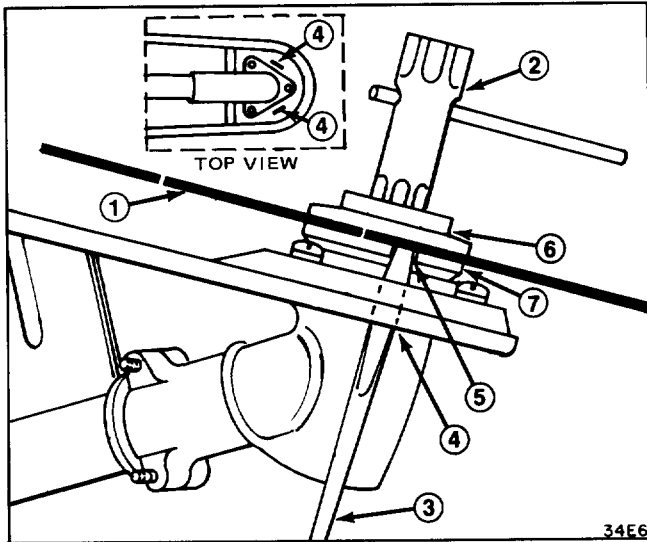

Figure 2
3. Rotate gearbox cap until notch in cap is aligned with slot in shield. Insert medium blade screwdriver through slot in shield and into notch in gearbox cap (Fig. 2).
4. Keep shaft from rotating by holding screwdriver as shown and tighten nut securely with wrench (left hand thread) (Fig. 2).